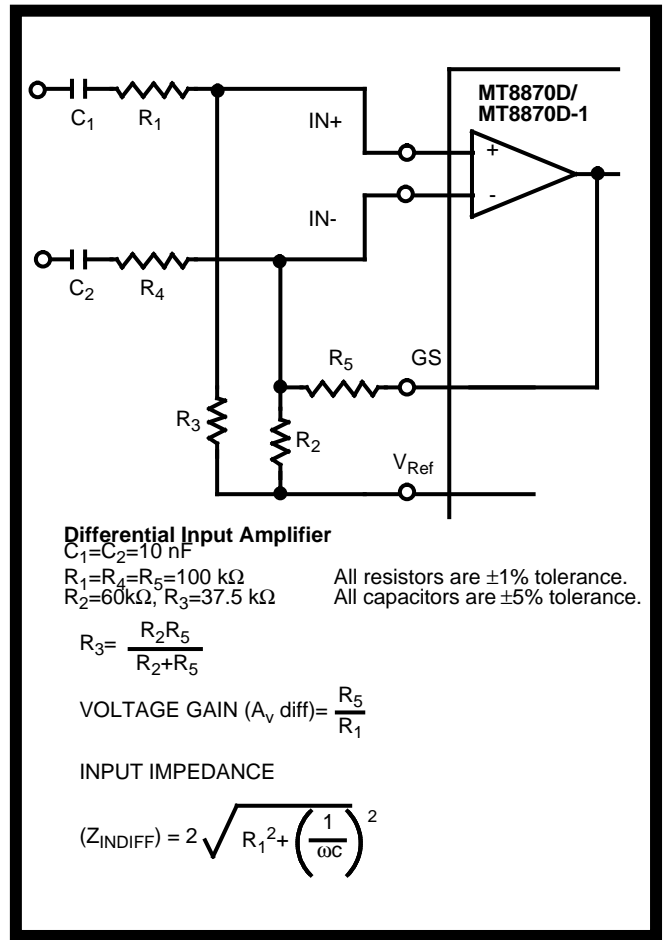

Figure 6 - Differential Input Configuration
| 4     | 4     | V Ref | Reference Voltage (Output). Nominally V DD /2 is used to bias inputs at mid-rail (see Fig. 6 and Fig. 10).  |
The input arrangement of the MT8870D/MT8870D-1 provides a differential-input operational amplifier as well as a bias source ( $V_{Ref}$ ) which is used to bias the inputs at mid-rail. Provision is made for connection of a feedback resistor to the op-amp output (GS) for adjustment of gain. In a single-ended configuration, the input pins are connected as shown in Figure 10 with the op-amp connected for unity gain and  $V_{Ref}$  biasing the input at  $\frac{1}{2}V_{DD}$ . Figure 6 shows the differential configuration, which permits the adjustment of gain with the feedback resistor  $R_5$ .